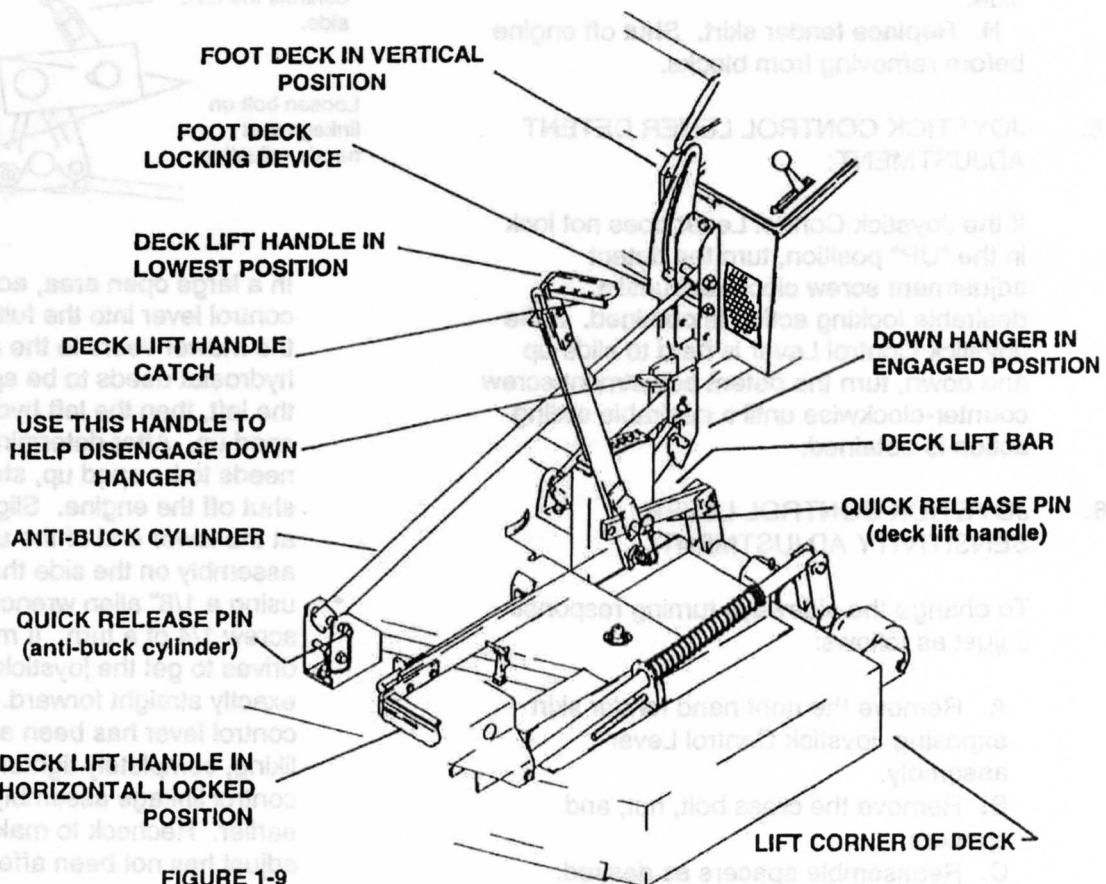

FIGURE 1-9
18. TILTING THE DECK: See Figure 1-9.
19. LOWER AND REATTACH THE DECK: See Figure 1-9.